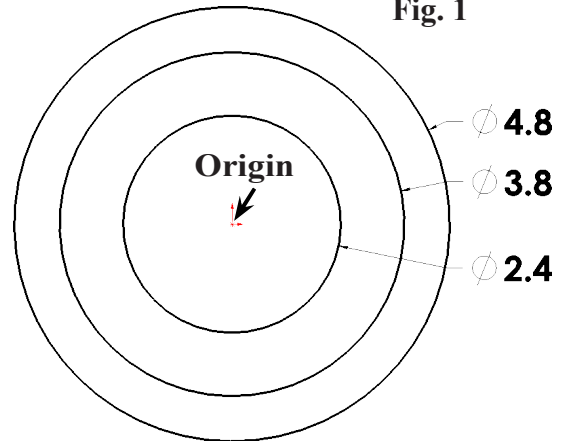
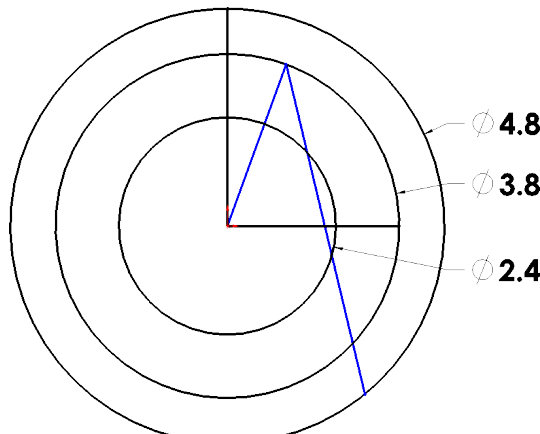

Fig. 2
Fig. 3
Step 3. Click **Circle**  (S) on the Sketch toolbar.
Step 4. Sketch **three circles** coincident at Origin , **Fig. 2**.
Step 5. Click **Smart Dimension**  (S) on the Sketch toolbar.
Step 6. Dimension diameters, **Fig. 2**.
Step 1. Click **Line**  (L) on the Sketch toolbar.
Step 2. Starting from the Origin  sketch **two radii** out to the middle circle, keep **one horizontal** and the other **at angle**. Sketch a vertical radii to outer circle. Sketch a line at angle from endpoint of radii to outer circle, **Fig. 3**. To terminate chain, double click back on the line you have just sketched.
Step 3. Click **Smart Dimension**  (S) on the Sketch toolbar.
Step 4. Dimension angles **70°** and **8°**, **Fig. 3**.